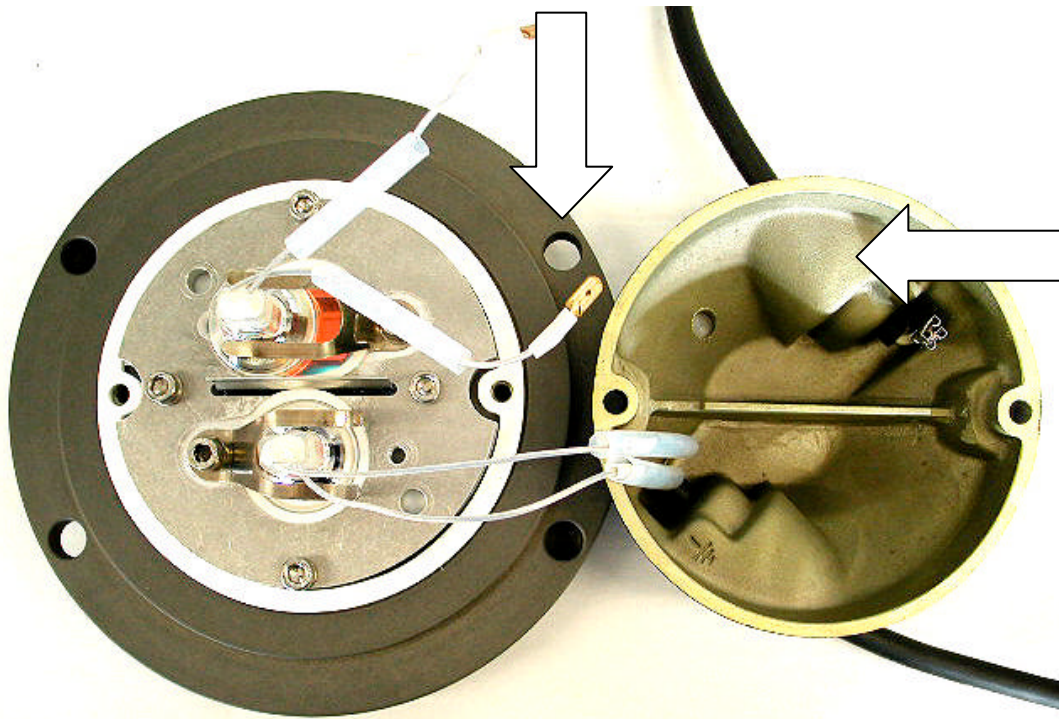

Fig. 2. Fitting inverted and Bottom Cover dis-assembled.
- Carefully remove the bottom cover (9) and disconnect lamp from the plug lead terminations. See **Fig. 2**.